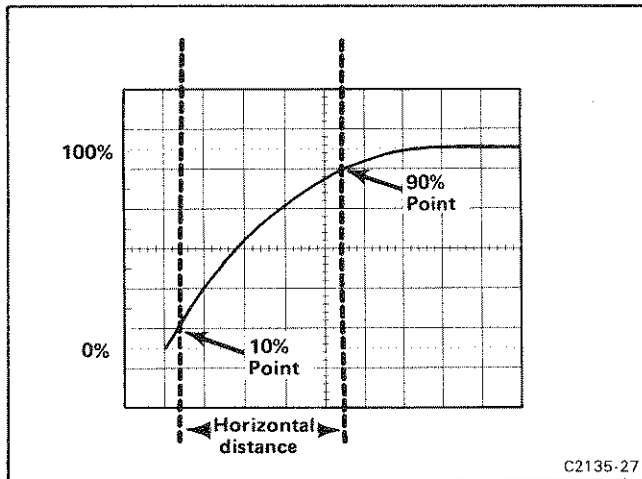

Fig. 1-5. Measuring risetime.
EXAMPLE: The frequency of the signal shown in Fig. 1-5, which has a period of 0.5 millisecond is:
4. Set the time-base triggering controls to obtain a stable display. Set the Seconds/Div switch to the fastest sweep rate that will display less than eight divisions between the 10% and 90% points on the waveform (see Fig. 1-5).